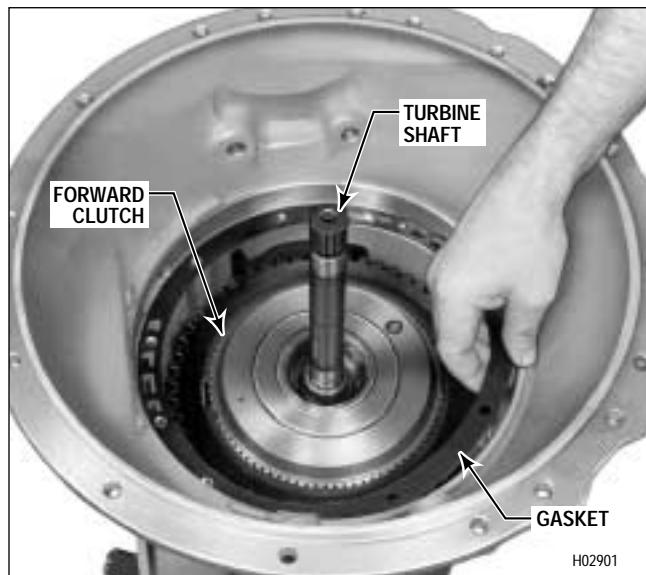

Figure 5-11. Removing Front Support Gasket (Models Without Retarder)
(7) Remove two hook-type sealings 38 (Foldout 7,B) and thrust washer 37 from the pump assembly. Refer to Paragraph 6-7 for rebuild of the pump assembly.
(8) Remove the front support gasket (Figure 5-11 or 5-12).
(1) Grasp the turbine shaft (Figure 5-11) and lift out the forward clutch and turbine shaft assembly.
(2) Remove thrust washer 33 (Foldout 8) from the rear of the forward clutch assembly. Refer to Paragraph 6-9 for rebuild of the forward clutch and turbine shaft assembly.